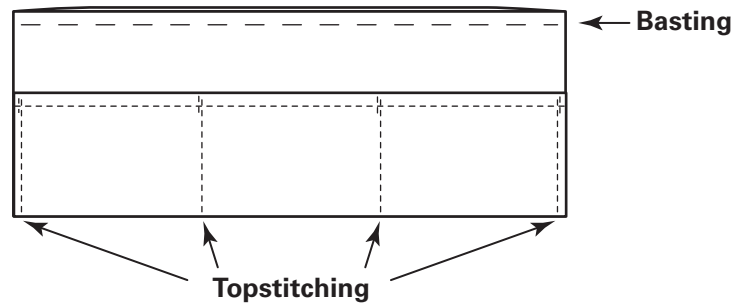

Fig. 18-5
9. Topstitch the side edges of the pocket together. Decide the number and width of pocket sections you would like in the pocket. Use the fabric marker to draw vertical lines that show how the pocket will be divided. Stitch along each line, backstitching at the beginning and ending of each line. (Fig. 18-5)